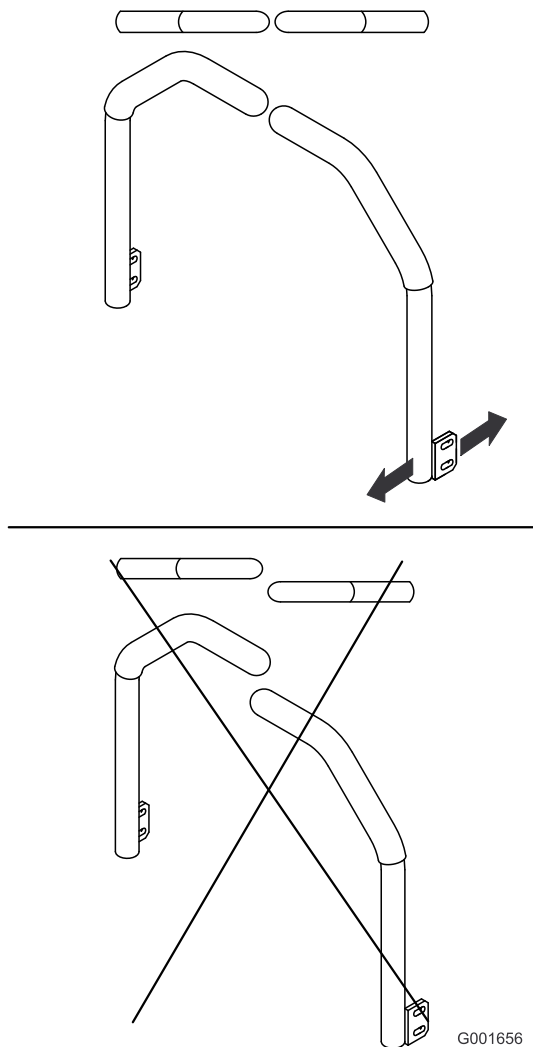

Figure 45
5. Adjust the control levers so that they line up and tighten the bolts, securing the levers to the posts (Figure 45).